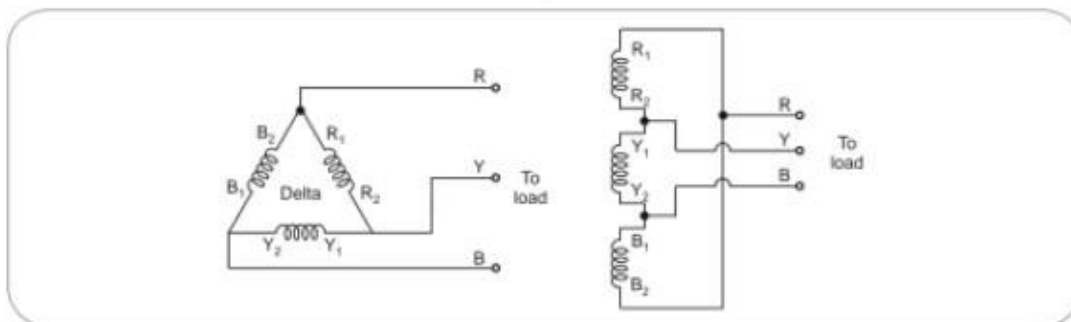

Fig. 1.5.3 Delta connection
- The delta connection is shown in the Fig. 1.5.3.